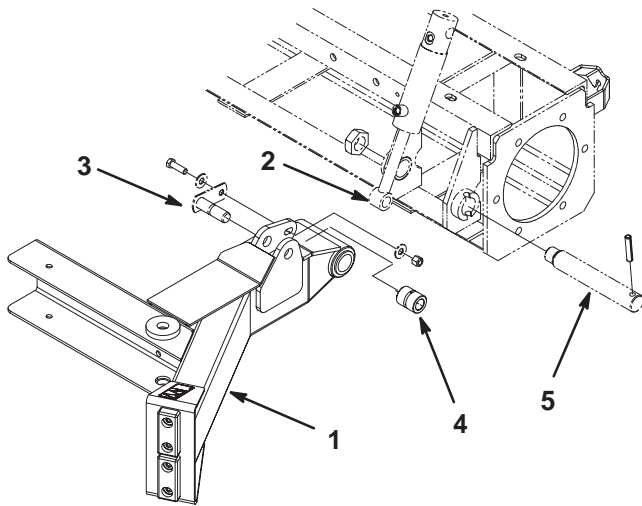

Figure 8
1. Mount left lift arm assembly to frame with lift arm pin and nut previously removed (Fig. 8). Torque to 60–70 ft–lb.
2. Mount cylinder end to lift arm with cylinder pin, spacer (GM 4100 only), 3/8 x 1–1/4” lg. screw, .406 x .813 flatwasher and 3/8 flange locknut. (Fig. 8). Torque to 27–33 ft–lb. Spacer to be positioned between lift arm plates and on cylinder pin when installed in cylinder end.